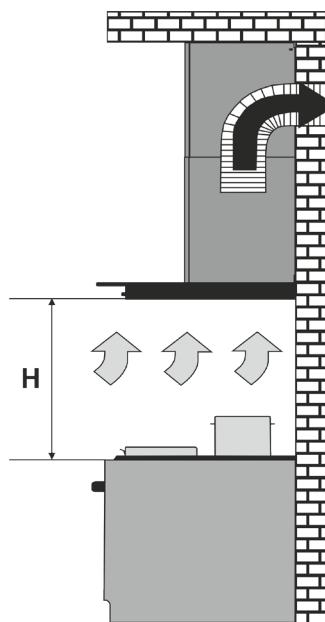

Fig. 1
4.5 When the cooker hood is installed above a stove at appropriate installation height H (Fig. 1), use an air duct **Ø 150 - Ø 120 mm** to exhaust air into the ventilation channel. Lesser diameter will cause an additional resistance to air leading to increased noise, vibration and motor overheating.
- ⌚ air exhaust into a kitchen chimney (**Fig. 1**);
and above the gas ones – less than 750 mm (Fig. 1).